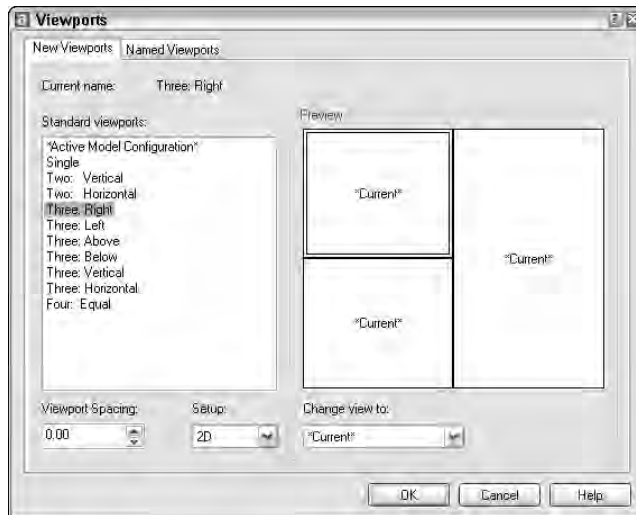

Figure 17-10: Use the Viewports dialog box to choose one of the standard configurations of floating viewports.
- ♦ **New Viewports:** Choose this item to open the Viewports dialog box, shown in Figure 17-10. Choose one of the standard configurations. AutoCAD displays it in the Preview box. Click OK to create the viewports.